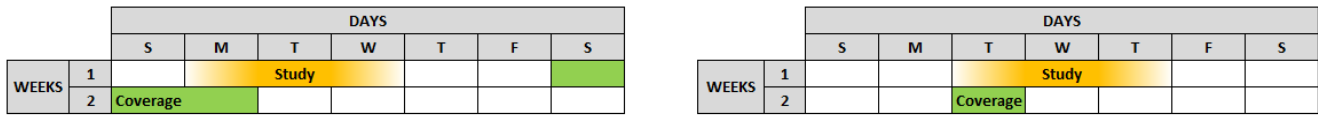

Figure 6: Sample 3 Day AA Process Timeline
This process repeats daily on business days¹⁵ with Study and Coverage Periods as identified in Figure 6 below.
- Study Period begins 16:00:00 EST on business days and ends at 15:59:59 EST, 2 business days later as shown in Figure 6.
- Coverage Period begins 00:00:00 EST on the 5th business day after the beginning of the Study Period and ends at 23:59:59 EST on the 5th business day after the beginning of the Study Period as shown in Figure 6.